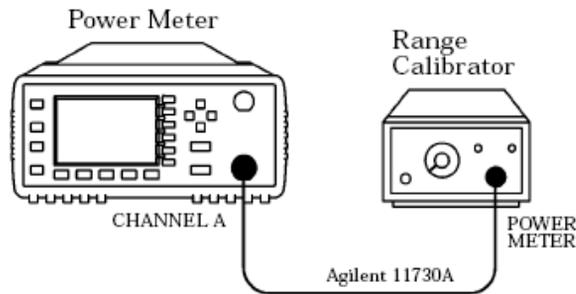

Figure 1-13 Instrument Accuracy Test Setup
- 1 Connect the equipment as shown in Figure 1-13.